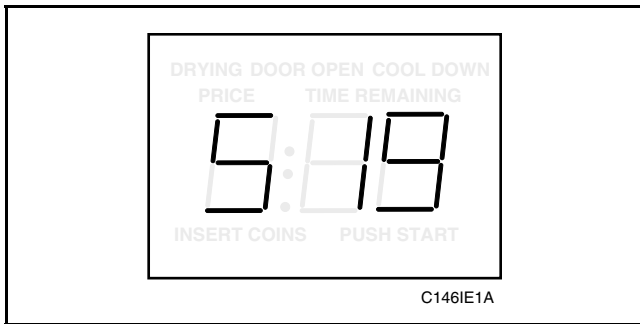

Figure 70
- While pressing and holding the HIGH TEMP pad with one hand, press the MED TEMP pad with the other hand. Programmable option number 1, (Audio Signal “SIg”), will appear in the VFD, *Figure 70*.